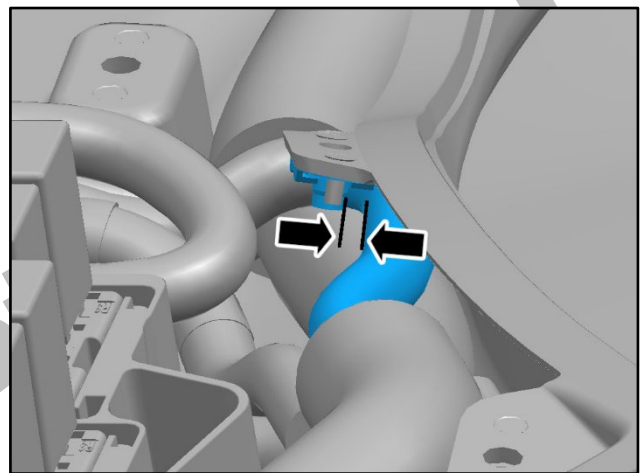

Figure 10
- 10. Confirm the clearance between the captive nut for the bolted joint and fuse box harness is at least 3.0 mm (refer to Figure 10).